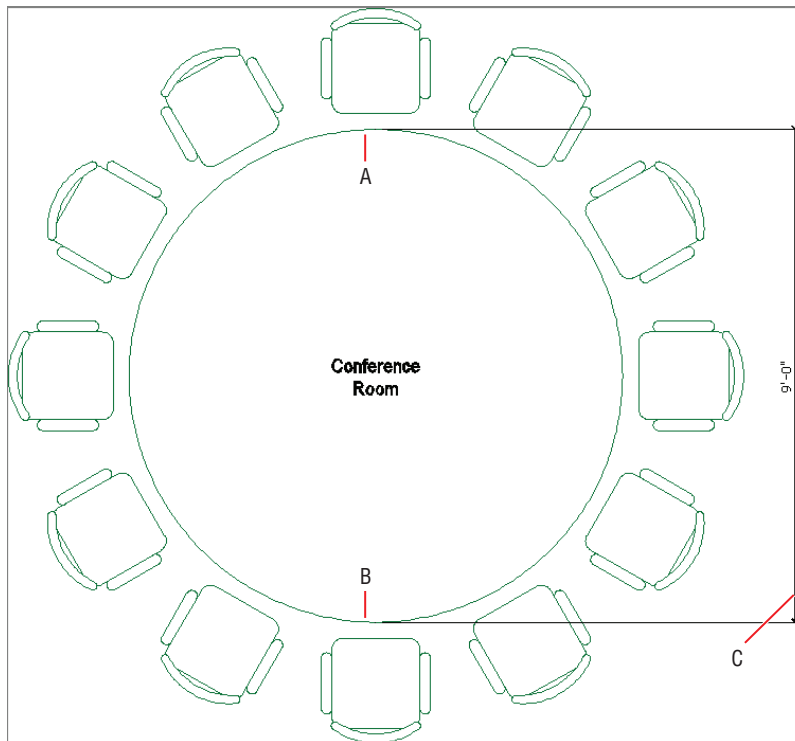

FIGURE 13.21 Drawing a dimension in paperspace
6. Right-click the Object Snap icon in the status bar, and toggle on quadrant snap. Click the Linear tool in the Annotation panel, and click points A, B, and C as shown in Figure 13.21. Points A and B are on the quadrants of the circle. A dimension measuring 9'-0" (274 for metric) appears on the layout in paperspace that looks similar to the dimension you drew earlier in this chapter in modelspace.